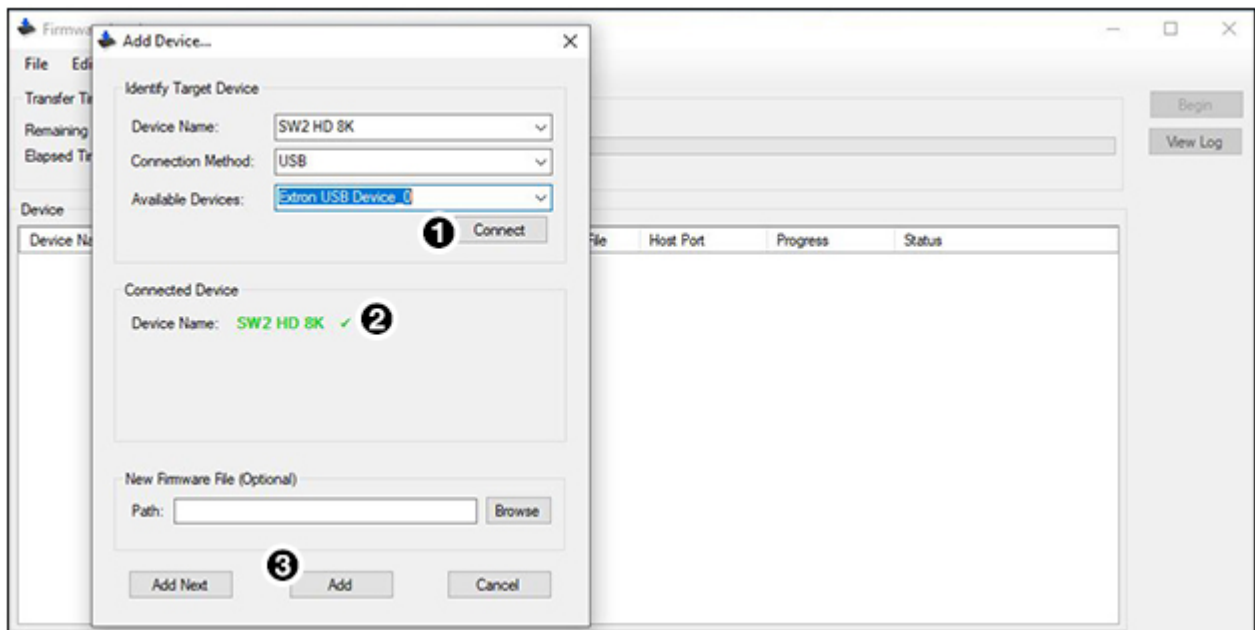

Figure 18. Successful USB-Connection to the Switcher via Firmware Loader
3. Click **Connect** (see figure 18, ①). If the connection is successful, **SW2 HD 8K** ✓ is displayed in green in the Connected Device panel (②).